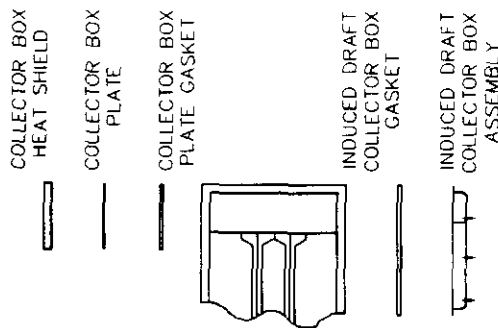

Figure 39 (4-045)
1. Remove draft inducer collector box and screws from outlet furnace front. See Figure 39. Save screws for reinstallation.
2. Remove heat exchanger collector box heat shield, cover plate and fiberglass gasket located on rear of furnace. Install them on front. See Figure 39. Take care to align gasket.
3. Install four screws below heat exchanger collector box outlet on new draft inducer side of furnace. See Figure 39.
4. Install draft inducer collector box on new draft inducer side of furnace using screws saved during removal. See Figure 39. Carefully align gasket.